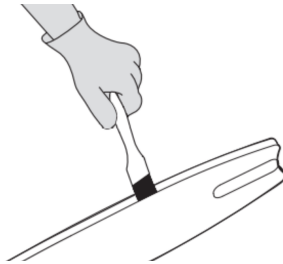

Fig. 19
2. Using a wire brush, screwdriver or similar tool, clear the residue from the inner groove of the bar (See Fig. 19).